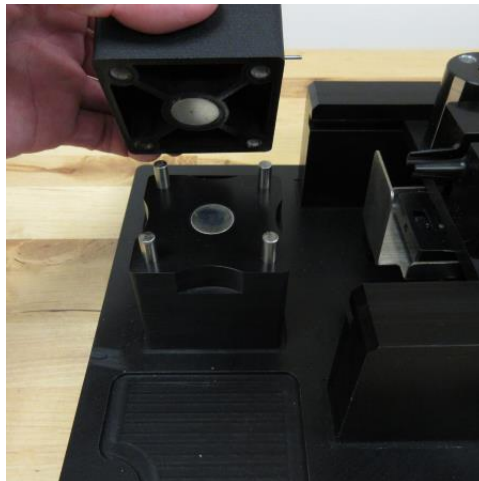

Figure 5
- Magnet holds nest in place. (figure 5)